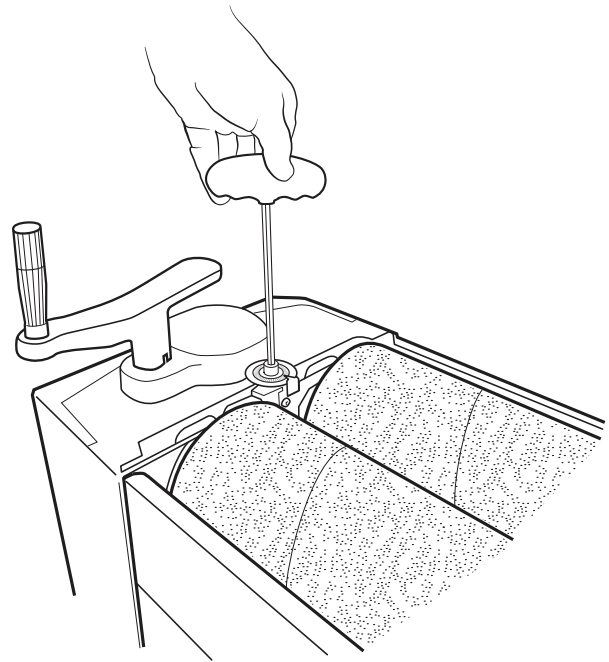

FIG. 11
2. Using the 6mm wrench provided, rotate the cap screws, indicated in Fig. 11, on either end of the rear drum.